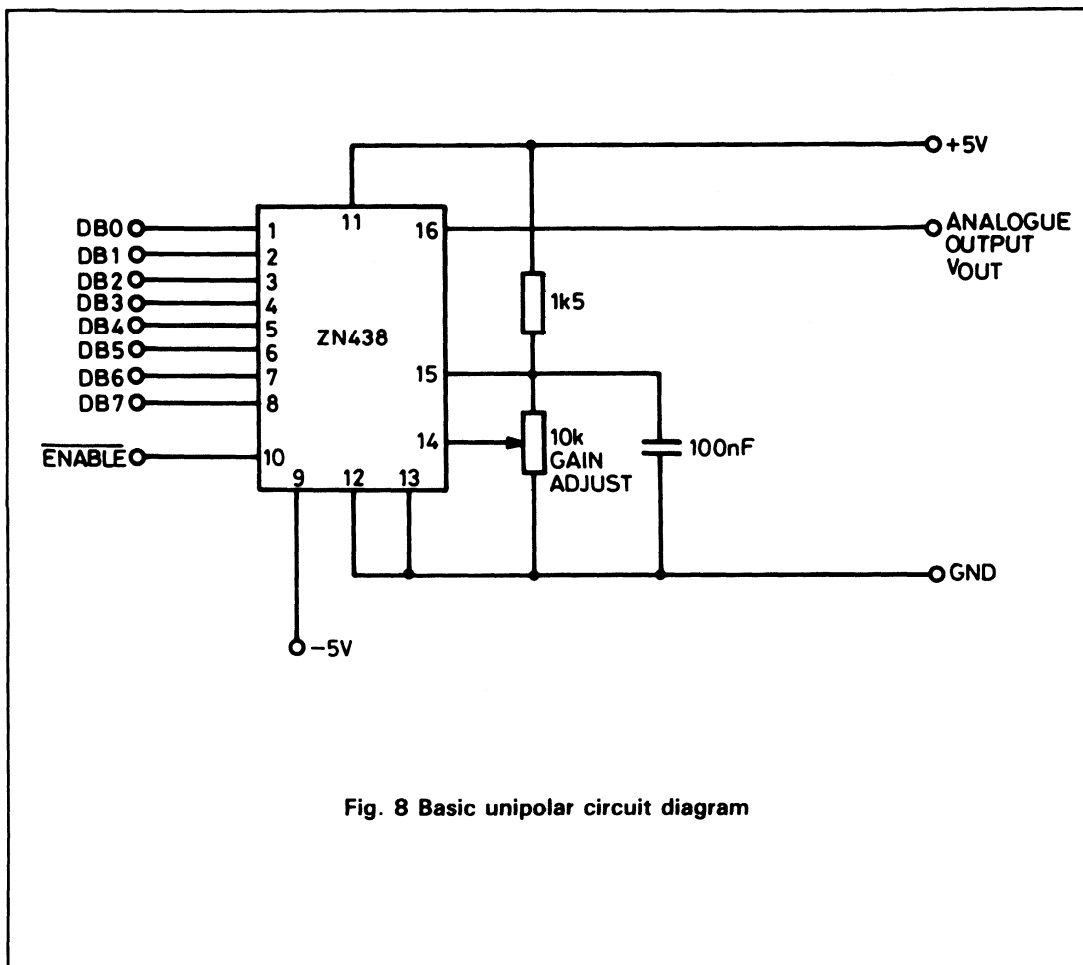

Fig. 8 Basic unipolar circuit diagram
The nominal output range of the ZN438 is 0V to ($V_{REF} - 1LSB$) where V_{REF} is typically 2.50V. A circuit diagram showing the minimum external components required to give this output range is shown in Fig. 8. The reference trim input is used to provide the necessary gain adjustment
- (i) Set all bits to OFF (low) with enable low and adjust zero until $V_{OUT} = 0.0000V$. (Not applicable to Fig. 8 as no offset adjustment is available)